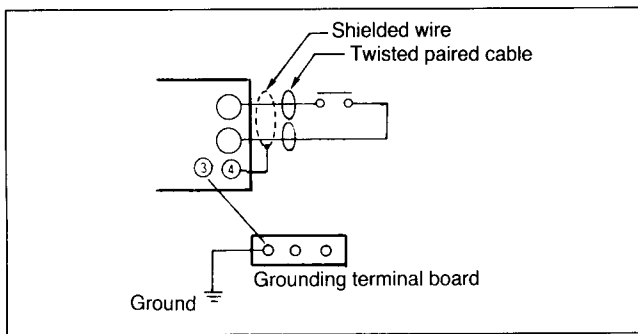

Fig. 11-1 Grounding method
- (1) Connect the instrument by one-point grounding to G terminal. Don't perform any jumper wiring. Mount a grounding terminal board (earth bar) separately and connect shielded cables, etc. to ground as shown in Fig. 11-1, since only one G terminal is provided.